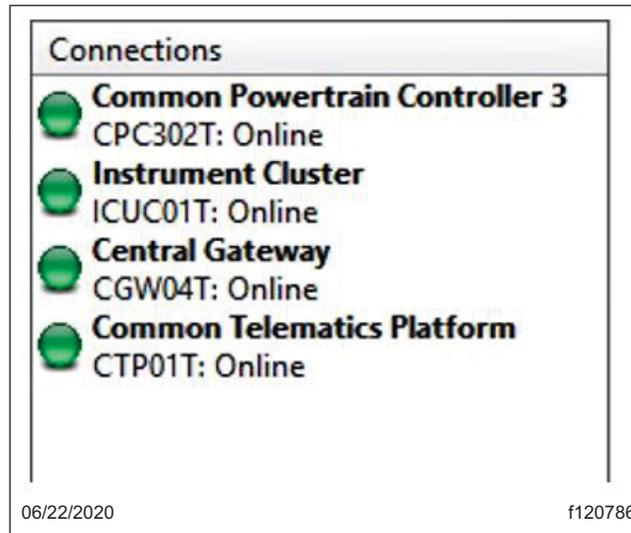

Fig. 2, DiagnosticLink Connections Panel
8. Wait until all four controllers are fully connected and the connection indicators turn green. See **Fig. 2**.